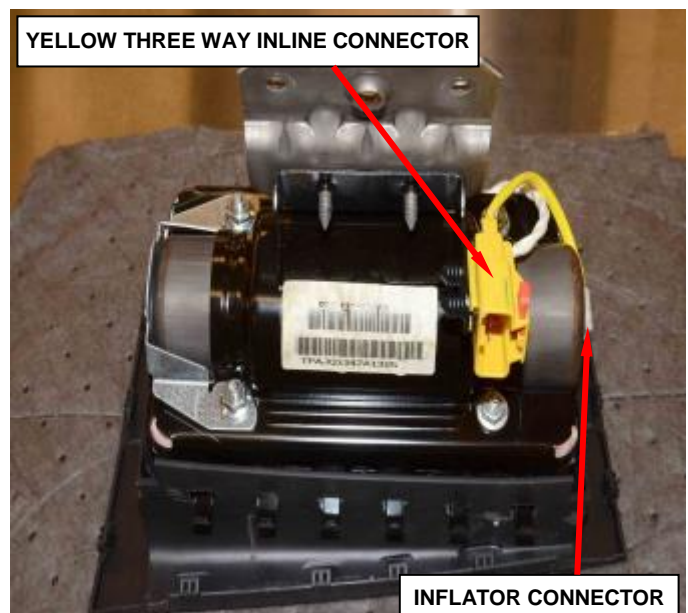

Figure 96 – Inflator Connectors
- c. Disconnect the single yellow wire inflator connector from the end of the inflator using pliers (Figure 96).
- d. Remove the yellow three way inline connector from the housing bracket (Figure 96).